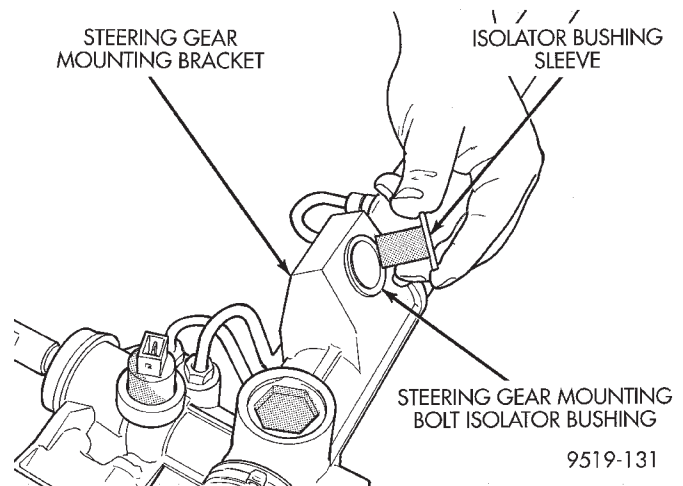

Fig. 24 Mounting Bolt Isolator Sleeve Installation
(3) Install mounting bolt isolator bushing sleeve into isolator bushing by pressing the sleeve into the bushing by hand (Fig. 24).